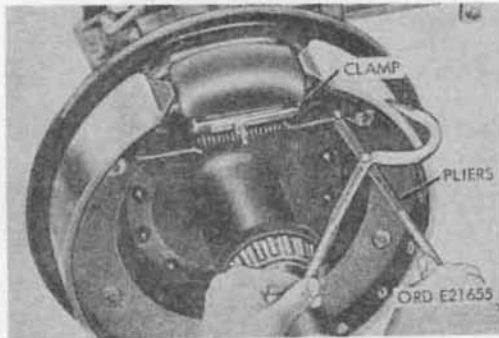

Figure 210. Removing service brake return spring
- (3) Remove wheel cylinder. Install the hydraulic brake cylinder clamp (fig. 210) over the ends of the wheel cylinder, and remove the return spring with brake return spring pliers. Remove two screws and lockwashers holding the wheel cylinder to the flange plate, and remove the dust cover and wheel cylinder.
- (1) Install wheel cylinder. Place the brake cylinder clamp (fig. 210) over the ends of the wheel cylinder. Position the cover and wheel cylinder on the flange plate, and install two lockwashers and hex-head screws. Tighten the screws securely. Position the brakeshoes at the ends of the wheel cylinder. Install the return spring with return spring pliers (fig. 210). Remove the brake cylinder clamp from the cylinder.
- (2) *Remove brakeshoe return spring.* Install the brake cylinder clamp (fig. 210) over the ends of the wheel brake cylinder to prevent the cylinder pistons from leaving the cylinder body during removal. Remove the return spring from the guide pins with return spring pliers.
- (3) *Install brakeshoe return spring.* Using return spring pliers (fig. 210), install the shoe return spring on the upper guide pins. Remove the clamp from the wheel cylinder.
- (4) *Install service brakedrum.* If the brake hub was removed, install the brake hub (par. 205). If not, install the brakedrum (par. 182).